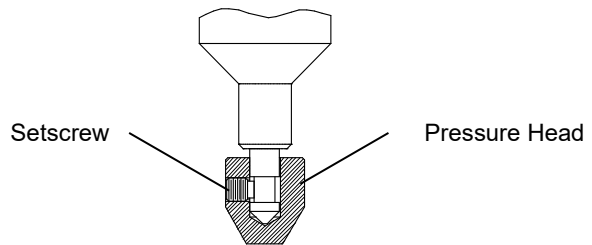

Figure 26 • Installing the Pressure Head
- Slide the pressure head onto the pressure applicator assembly (see Figure 26).
- Adjust the Slip-Clutch so 1" (25mm) of the shaft is exposed, as shown in the Figure 26.
NOTE Figure 26 is roughly to scale and can be held up against the unit to check the length of the loop.